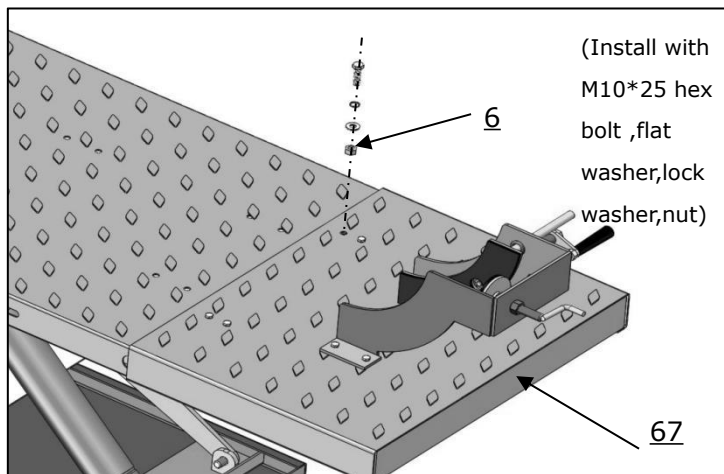

Fig.17
H. Install Optional Length Extension Kit (MC002) . See Fig 17